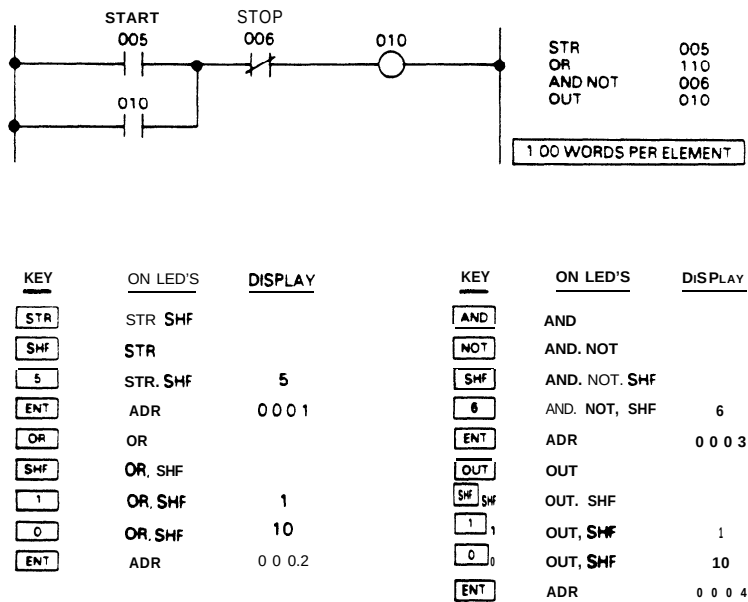
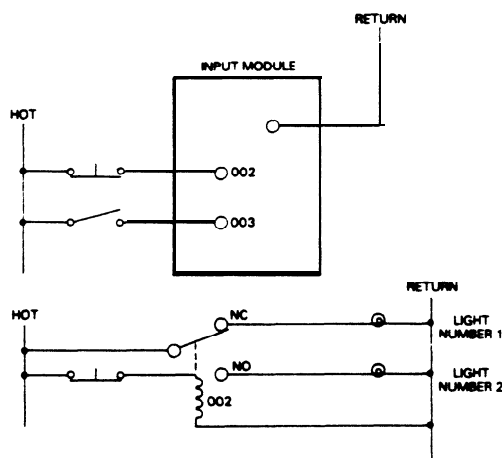

Figure 5-5. Sample Relay Logic (Motor Starter)
Figure 5-6. Example of Normally Closed Inputs
With this background on the basics of programming a Series One and Series One Plus PC, Figure 5.5 provides a simple example to illustrate relay ladder programming. The references used were selected for illustrative purposes and can be adjusted as necessary to meet your application needs. This is a simple motor starter and seal circuit. An input module is assumed to be installed next to the CPU (005 = start pushbutton input, and 006 = stop pushbutton). Adjacent to the input module is assumed to be an output module (010 = output to motor starter). The program does not care whether these input and output modules are 115 V ac or 24 V dc. The programmer keys to be depressed to enter this logic are also shown in the figure. The start key begins a new rung of logic; this example and most that follow assume an empty memory so the example begins at address 0000.
The first reference is entered (STR, SHF, 5, ENT) and a normally open contact is established since the NOT key was not depressed. Referring to Figure 5.5, the next function moving from the left (contact 005) to the right along the top line of the logic rung, is a parallel contact referenced as 010. Parallel logic is represented by the OR function, which is selected followed by the desired reference (10) and the Enter key to load the memory. Again moving to the right of the top line, the next contact is in series with the logic completed so far. Thus the ANTI key is selected (for series logic). Since this contact is normally closed, the NOT key is also selected followed by the reference 6 and the Enter key.
After completing the logic of Figure 5.5, several features of programming should be noticed. First, all elements of the program are entered directly into CMOS memory as the Enter (**ENT**) key is depressed. Thus, if power should be interrupted while a program is being entered or altered, it will be totally saved except possibly for the one element being worked on. Second, there is feedback on the programmer **for all** entries. Something happens (LED ON, display changes, error codes appear, etc) for each key selected. Third, the logic is set up for inputs that are **wired** normally open. If an input is wired normally closed, an adjustment must be made to the symbol (NO or NC) used for that input. Referring to Figure 5.6, inputs sense voltage at their field terminals. They can not detect if a voltage is from a normally open limit switch that is depressed or from a **normally** closed pushbutton that is not depressed. Cover up the two field devices wired to inputs 002 or 003. If you were the input module, and both applied voltage to the field terminals, could you tell which was wired normally closed and which normally open? Because of this, the programmer or system designer must compensate.
In a previous discussion, it was stated that inputs are like relays with many poles and you are selecting which type of pole is to be used when you program. In the lower half of Figure 5.6, coil 002 is shown in the de-energized position; however it is wired to a normally closed pushbutton. When you want power to flow if the pushbutton is **NOT** depressed, which contact type do you choose, NO or NC? The answer is normally open since coil 002 is always energized except when the pushbutton is **depressed**. **Therefore, in programming** with the Series One or Series One Plus PCs, a **normally** open contact is appropriate. If the stop button of Figure 5.6 **were wired normally closed, its internal logic** should be normally open to compensate. However, this concept does not normally cause problems for the programmer. **Since PCs are reprogrammable**, if an error is made and discovered when the system is exercised, it is easy to correct.